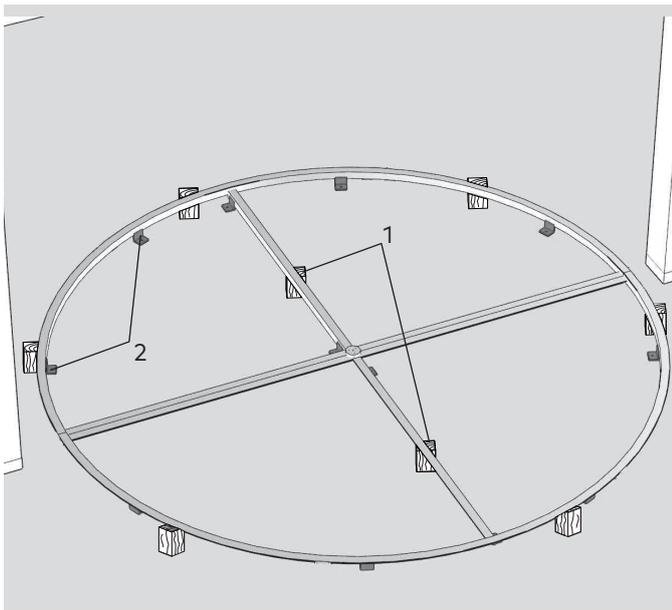

Fig. 30 Floor ring
3. Floor ring evenly with the upper edge of the finished floor with blocks (Fig. 30/1), as shown in Fig. 30.